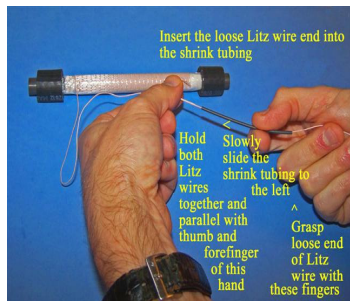

Figure 21
18) Refer to Figure 21. Pick up the PL-380 in the position shown, with the left side of the radio facing up. Grasp the whip antenna (and the rest of the back cabinet) with one hand, and the front cabinet